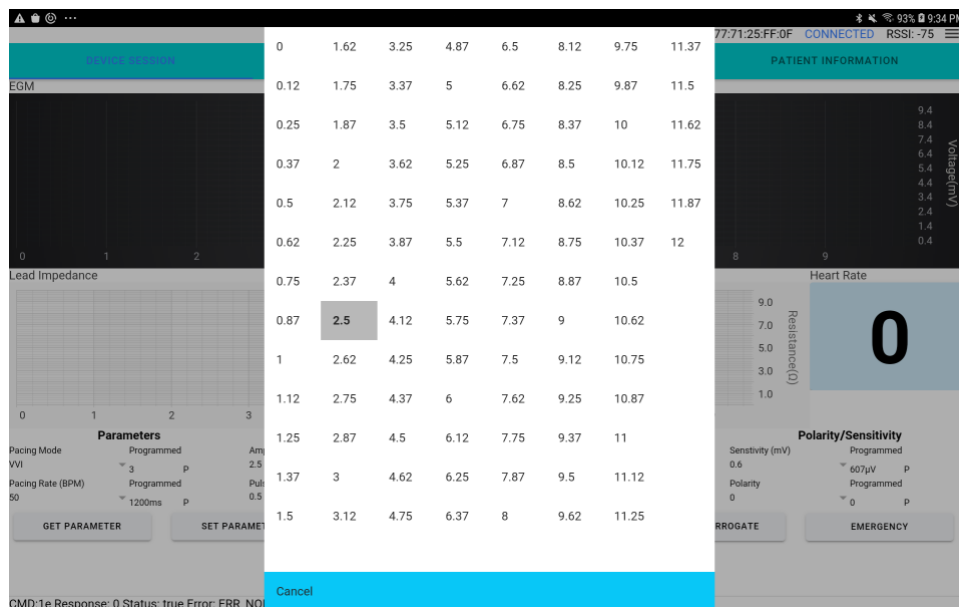

Figure 9: Selecting Parameter Values
3. This will bring up a dialog box with the allowed programmable values (Figure 9).
4. Tap on the desired value to select the value for programming (Figure 9).